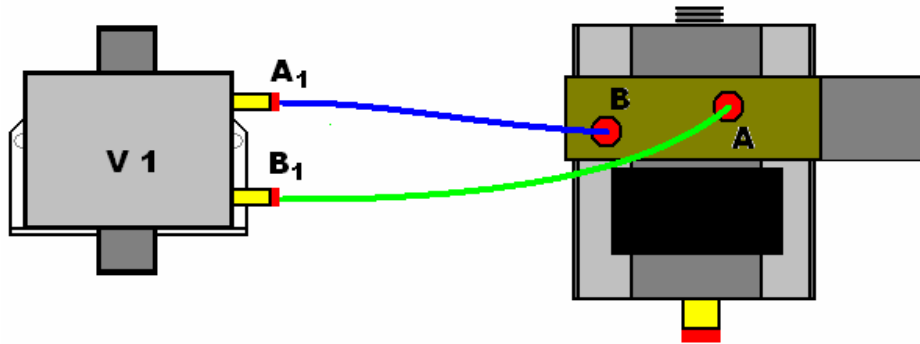

Figure 3-4
- If normally-open operation is desired for a CV-210 Valve, connect the solenoid pilot valve to the CV-210 Valve as shown in Figure 3-4